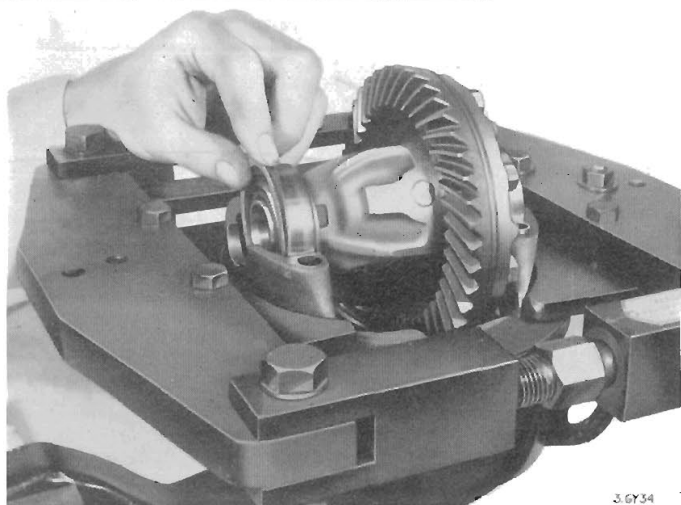

Fig. 29. Using a Churchill spreading tool to release the differential carrier
Remove the bearing cap bolts (44) and detach the bearing caps (45). Assemble the Churchill spreading tool on the housing face as shown on Fig. 29. Spread the fixture by turning the double-ended tensioner screw until it is hand tight, then complete the spread by moving it a further half-turn with a spanner.